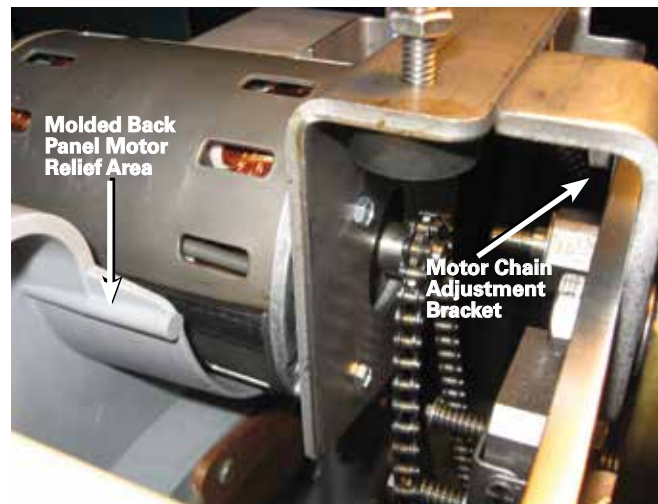

Figure 117. Locating motor.
- Place the motor into the motor relief area of the molded back panel. Put the chain on the motor sprocket engaging the sprocket teeth. Make sure the chain is fully engaged around the bottom of the drive sprocket gear. If there are any loose links around the bottom of the gear, the motor will not fit properly. Refer to Figure 117.